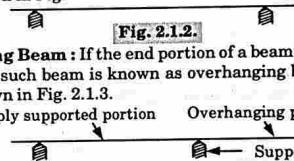

Fig. 2.1.2.
2. **Simply Supported Beam :** A beam supported or resting freely on the supports at its both ends is known as simply supported beam. Such beam is shown in Fig. 2.1.2.